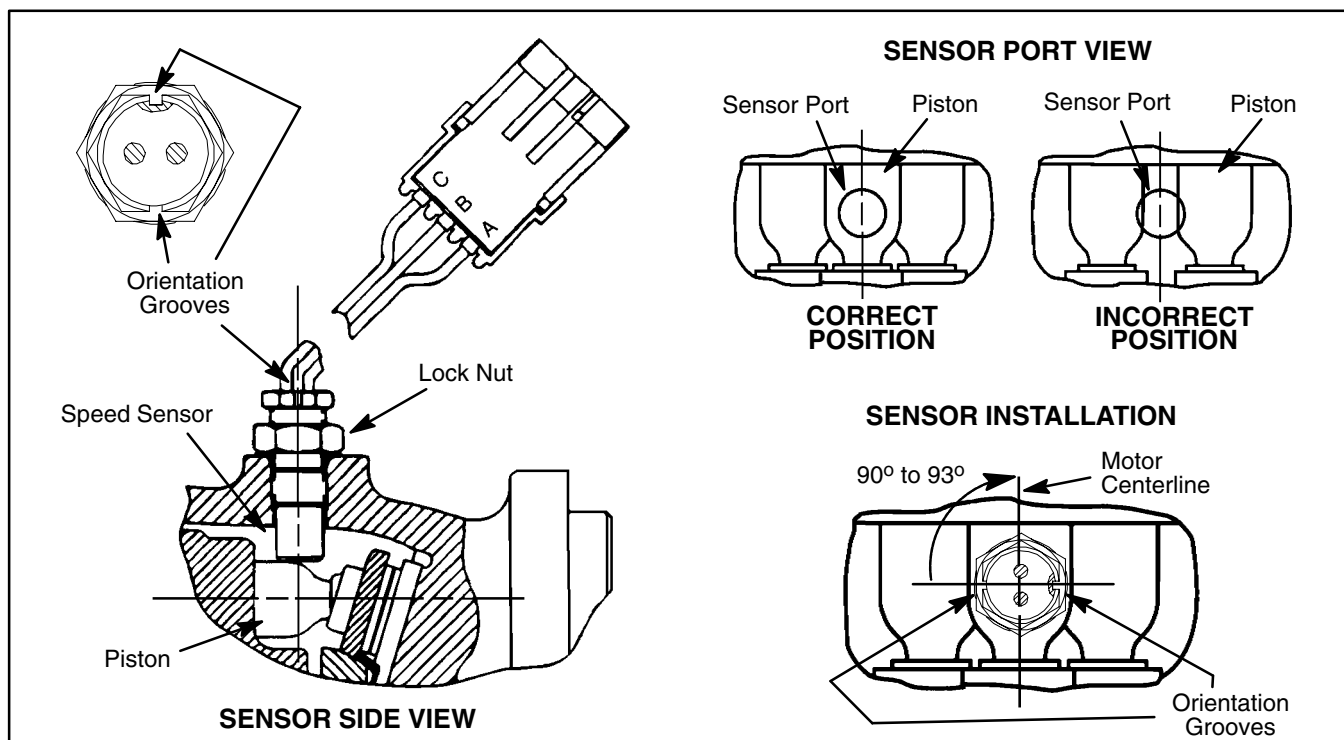

Figure 46
2. Center a wheel motor piston in the center of the sensor port (see Sensor Port View in Fig. 46). **NOTE:** If the motor is on the machine, use a suitable tool to feel when a motor piston is in the center of the sensor port.